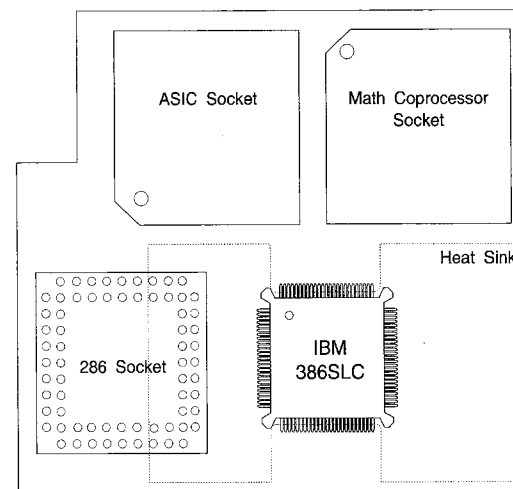
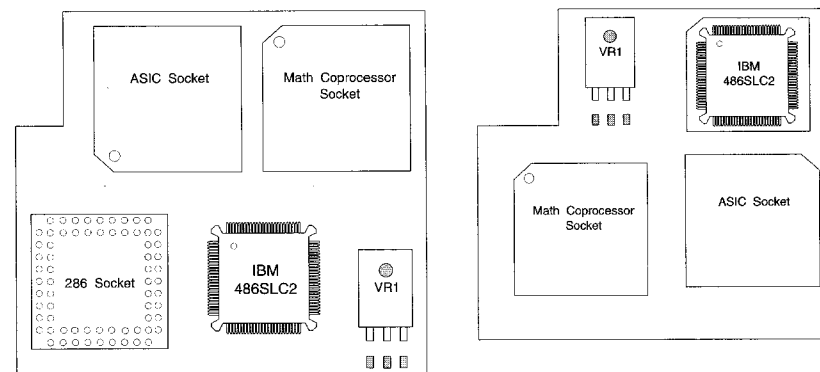

Figure 8. Top View of the 386SLC Cached Processor Upgrade Card for the IBM PS/2 Model 50/60, (see **BOTTOM** of upgrade card for location of Pin #1).
Figure 9. Top View of the 486SLC2 Cached Processor Upgrade Card for the IBM PS/2 Model 50/60, (see **BOTTOM** of upgrade card for location of Pin #1).
- If you are adding the math co-processor, identify pin 1 of the math co-processor chip, (designated by either a beveled edge, dot, notch or half-circle). Match this corner to the bevelled edge for the math co-processor on the 386SLC Cached Processor Upgrade Card, (see figure 8), or the 486SLC2 Cached Processor Upgrade Card, (see figure 9). Carefully place the co-processor into the socket located on the upgrade card being sure to align the pins and the connector. Firmly press the module into place. (The pins of the module are